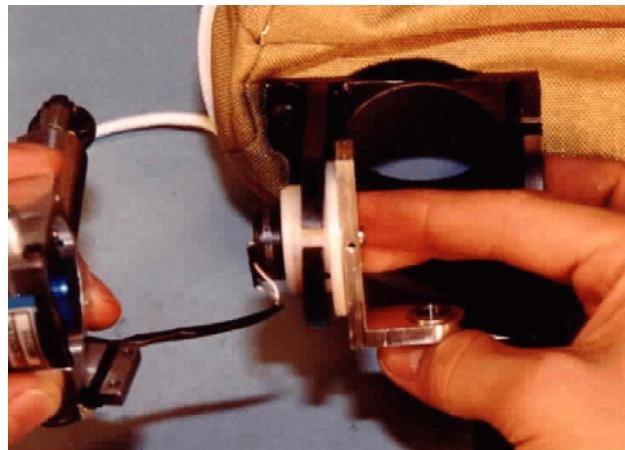

Figure 10.11- Insert Rotary bushing through
10. Insert the Rotary Bushing (T1DPM211) and Yoke Axis Rotary Potentiometer (T1DPM210) through the 1.25" diameter hole of the left attachment bracket, as shown in **Figure 10.11**.